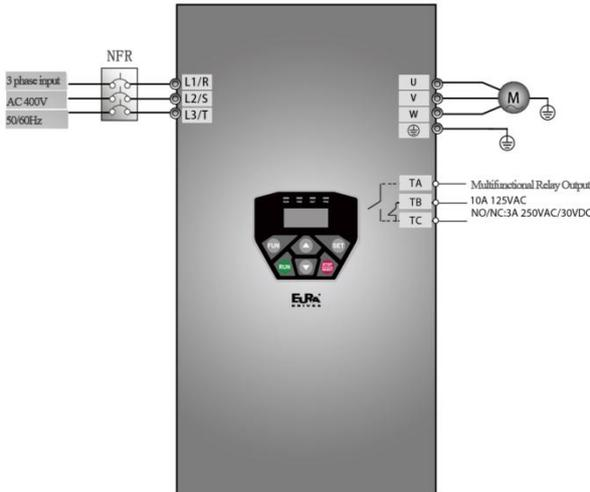

Figure 5-1 Wiring Diagram
(1) Connect the wires in accordance with Figure 5-1. After having checked the wiring successfully, switch on the air switch, and power on the inverter.
(2) Press the “Fun” key, to enter the programming menu.
(3) Set functional parameters of the inverter:
- (1) Connect the wires in accordance with Figure 5-1. After having checked the wiring successfully, switch on the air switch, and power on the inverter;
- (2) Press the “Fun” key, to enter the programming menu.
- (3) Set functional parameters of the inverter: